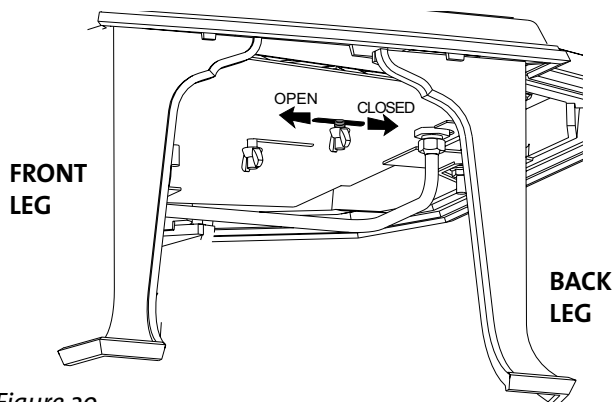

Figure 29.
1. Reach under the right side of the stove and loosen the wingnut located closest to you. See fig. 29. Slide the wingnut stem forward to open the air shutter and increase air. Slide the shutter stem back to decrease the air supply.